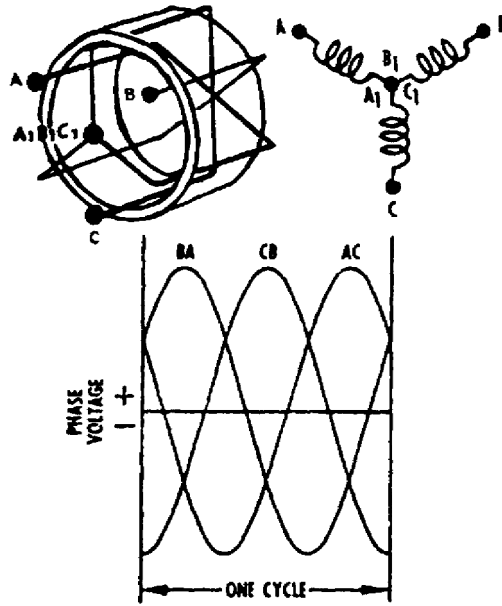

Figure 26. Wye "Y" connection.
d. When the ends of the loops of wire marked A_1 , B_1 , and C_1 are connected together, a basic three-phase "Y"-connected stator is formed. The three voltages available from the "Y"-connected stator may be labeled BA, CB, and AC. From figure 26, it may be seen that each of these voltages consists of the voltages in two loops of wire added together. For example, the voltage measured from B to A consists of the voltages in loops B_1B and A_1A added together. This addition yields a voltage curve BA similar in shape and form to the individual loop voltages, except that the voltage curve BA will be approximately 1.7 times as large in magnitude as an individual loop voltage. The addition of the loop voltages involves a mathematical process which will not be presented here, since it is only necessary to remember that three AC voltages spaced 120° apart are available from the "Y"-connected stator, as illustrated. These voltage curves will be considered in more detail in the following paragraphs.